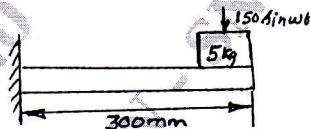

Fig Q4(b)
- 4 a. What do you mean by forced vibration and explain term magnification factor (MF) with usual mathematical notation. (04 Marks)
- b. A 5kg mass is placed at the end of a 300mm long steel beam as shown in Fig Q4(b). the Young's modulus of elasticity of steel is 200GPa and the moment of inertia of beam  $10^{-8} \text{m}^4$ . When the system is excited by a harmonic excited force of 150N, an amplitude of 0.5mm is observed. Find the frequency of excitation.